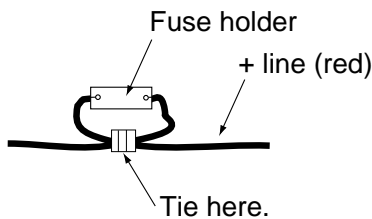

Figure 9-4 How to fix spring in fuse holder
**Note:** The fuse holder contains a spring which fixes the fuse. To prevent detachment of the spring, which would cause loss of power, tie the line as shown in Figure 9-4.